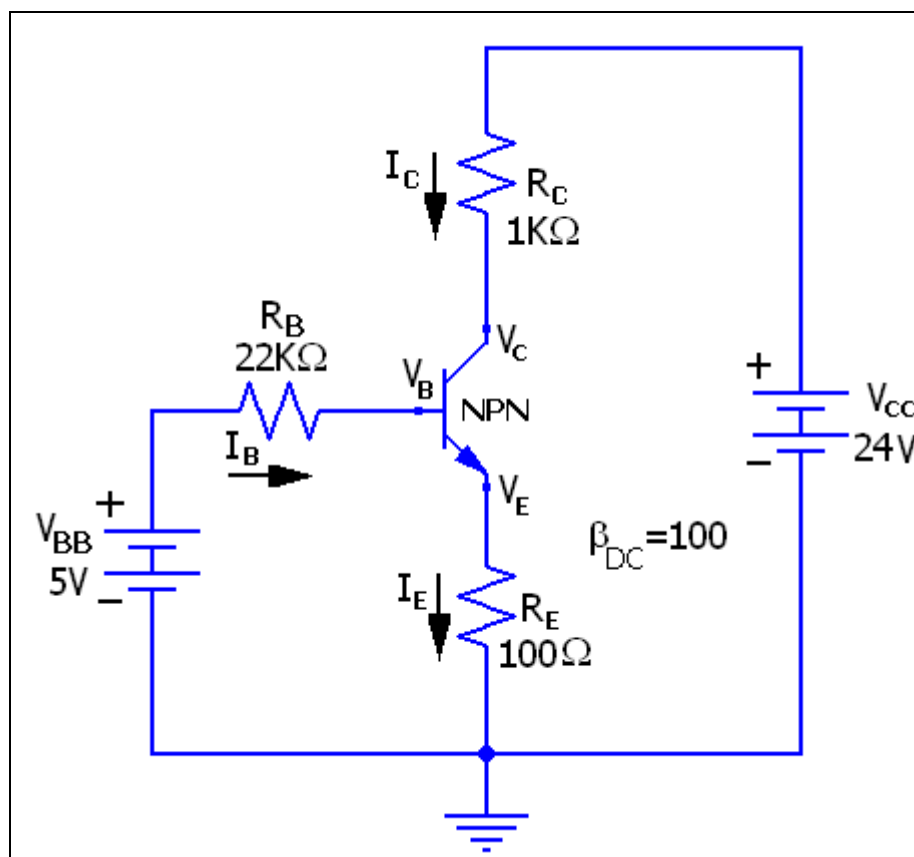

Fig. 3.2-12
1. For the base voltage biasing circuit of Fig. 3.2-12; if $\beta_{DC} = 100$. Determine the following: